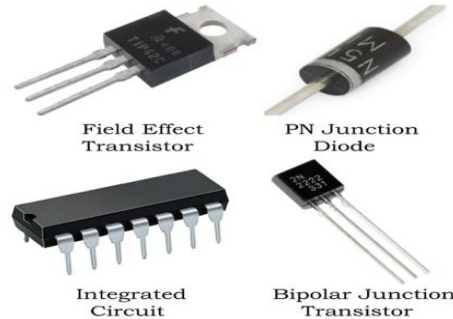

Fig. 2.29: Active components
Active components depend on a source of energy to perform their functions. These components can amplify current and can produce a power gain. The examples of active components can be given as Diode, Light Emitting Diode (LED), Transistor and Integrated Circuit (IC). Figure 2.29 shows the various active components used in the circuit.